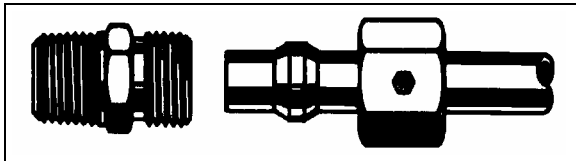

FIGURE 48: HOSE FITTING 12054
**Compression:** Tighten nut by hand (Fig. 48). From that point, tighten using a wrench the number of turns indicated in the chart hereafter.